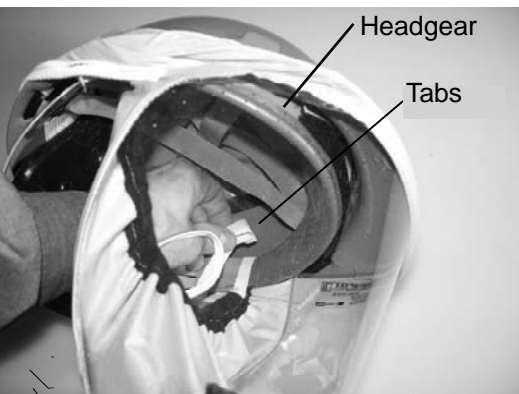

Figure 24
3. Attach the Tabs to the Headgear (fig. 24)